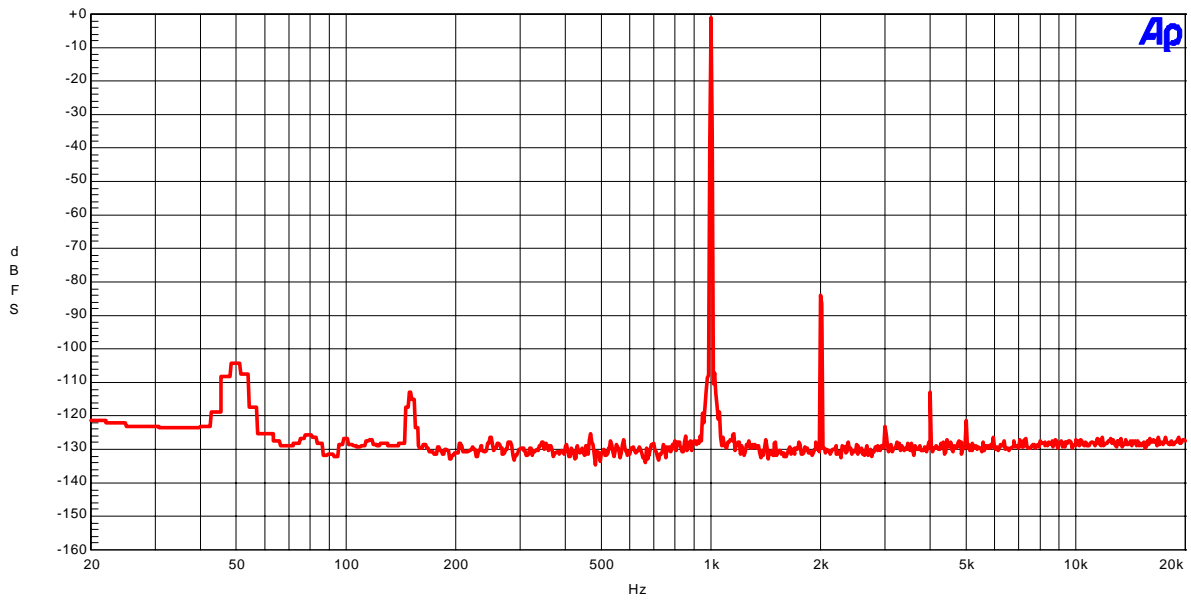

Figure 7. FFT (fs=48kHz; 1kHz, -1dBFS input)
- Figure 7. FFT (1kHz, -1dBFS input)